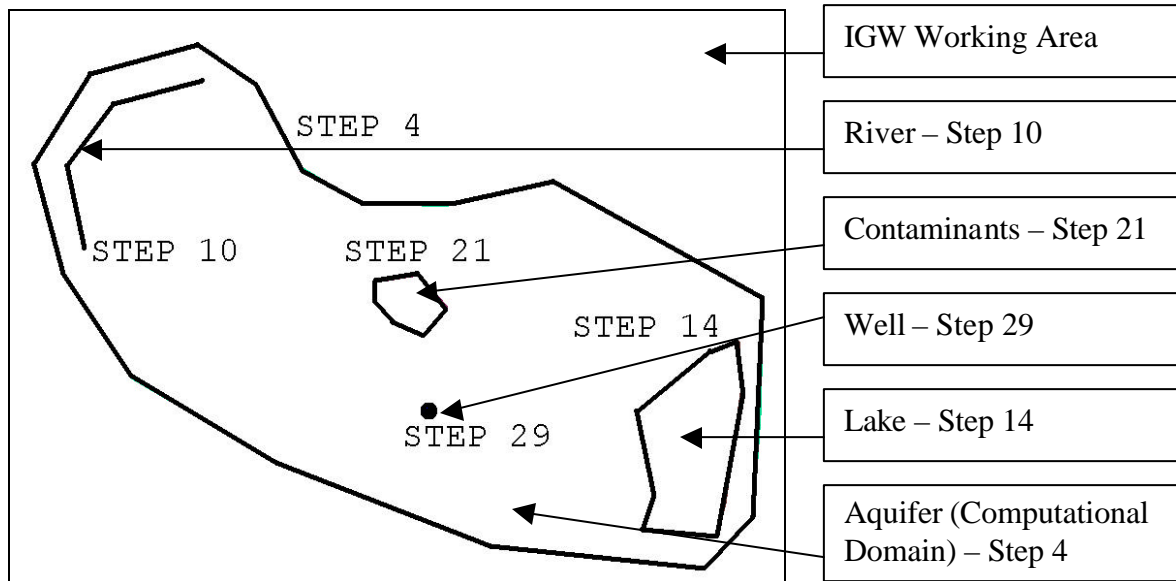

FIGURE 1
Figure 1 shows a sample of the IGW 3 Working Area and acts a reference for the steps to perform in this quick tutorial.
Step 4: Draw the desired shape of the polygon in the Working Area (white rectangular region) – see the polygon labeled 'Step 4' in **Figure 1**.
Step 10: Draw a polyline in the upper-left hand corner of the Working Area, within the computational domain, to represent a river – see the line labeled 'Step 10' in **Figure 1**.
Step 14: Repeat Steps 3 and 4 to define a zone in the lower right-hand corner of the Working Area (within the computational domain) that will represent a lake – see the polygon labeled 'Step 14' in **Figure 1**.
Step 21: Define a polygon in the computational domain that will contain the particles – see the polygon labeled ‘Step 21’ in **Figure 1**. Refer to Step 4 for instructions on defining a polygon.
Step 29: Click the mouse at a point in the computational domain – see the point labeled ‘Step 29’ in **Figure 1**. Do not make any adjustments in the AIME (the default settings will be used).
Step 31: Define a zone as per Steps 3 and 4 in the same location as the particle zone – see the polygon labeled ‘Step 21’ in **Figure 1**.